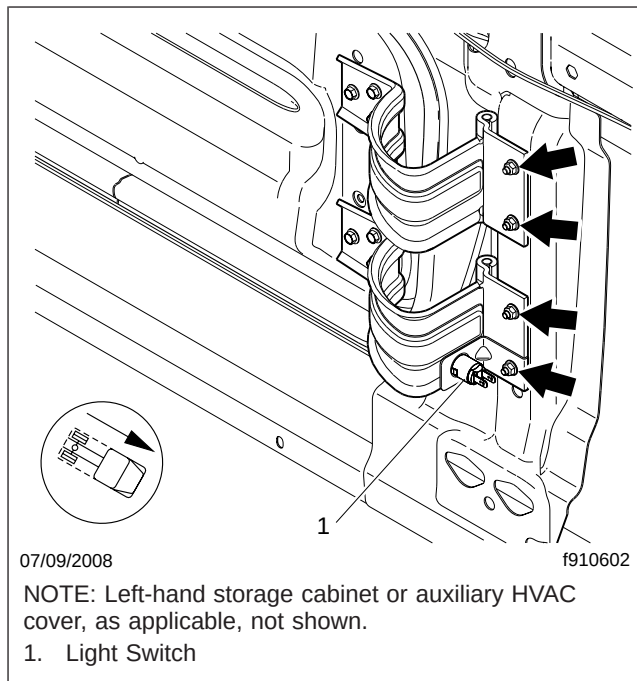

Fig. 1, Hinge Mounting Nuts (baggage door shown)
3. Loosen the flanged nuts that attach the hinges to the inside cab wall, just enough to adjust the door with gentle force; see Fig. 1. Note that the lower nut of the baggage door hinges also secures the light switch bracket. Adjust the door forward or aft, and up or down, as needed, to provide a uniform gap to the cab skin around the door.